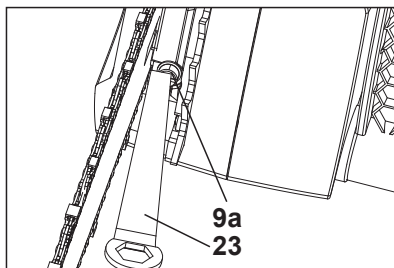

Fig.2b
- 3). Turn the tension screw (9a) until the chain 'tie straps' are just touching the bottom edge of the guide bar (4) (Fig. 2b, 2c).